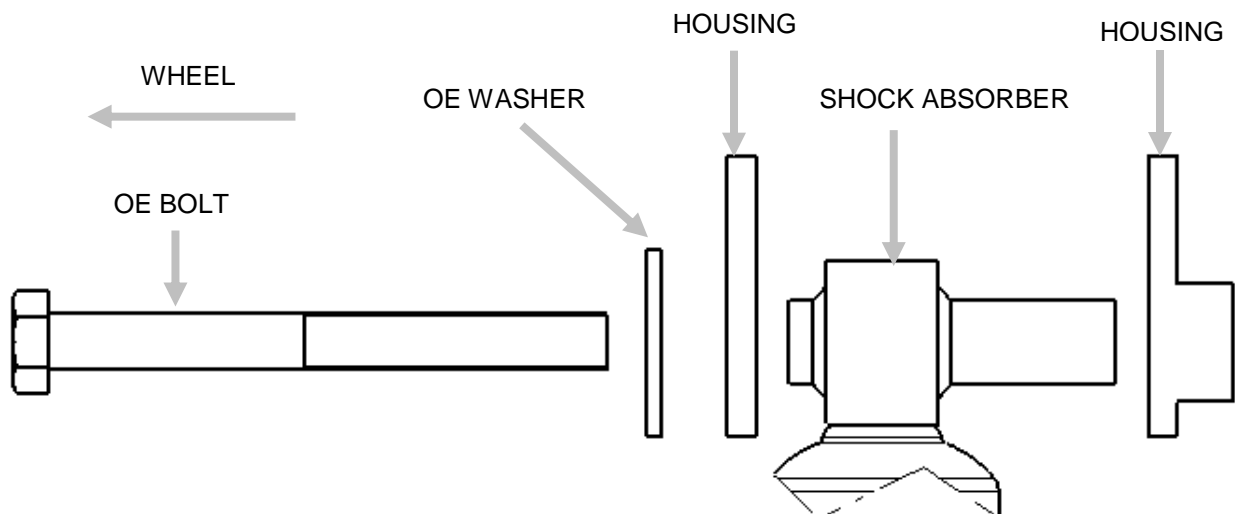

Figure 10 – Drive side top
- P. Install the driver side shock in the original location with the top mount offsetting away from the vehicle as shown in Figure 10.